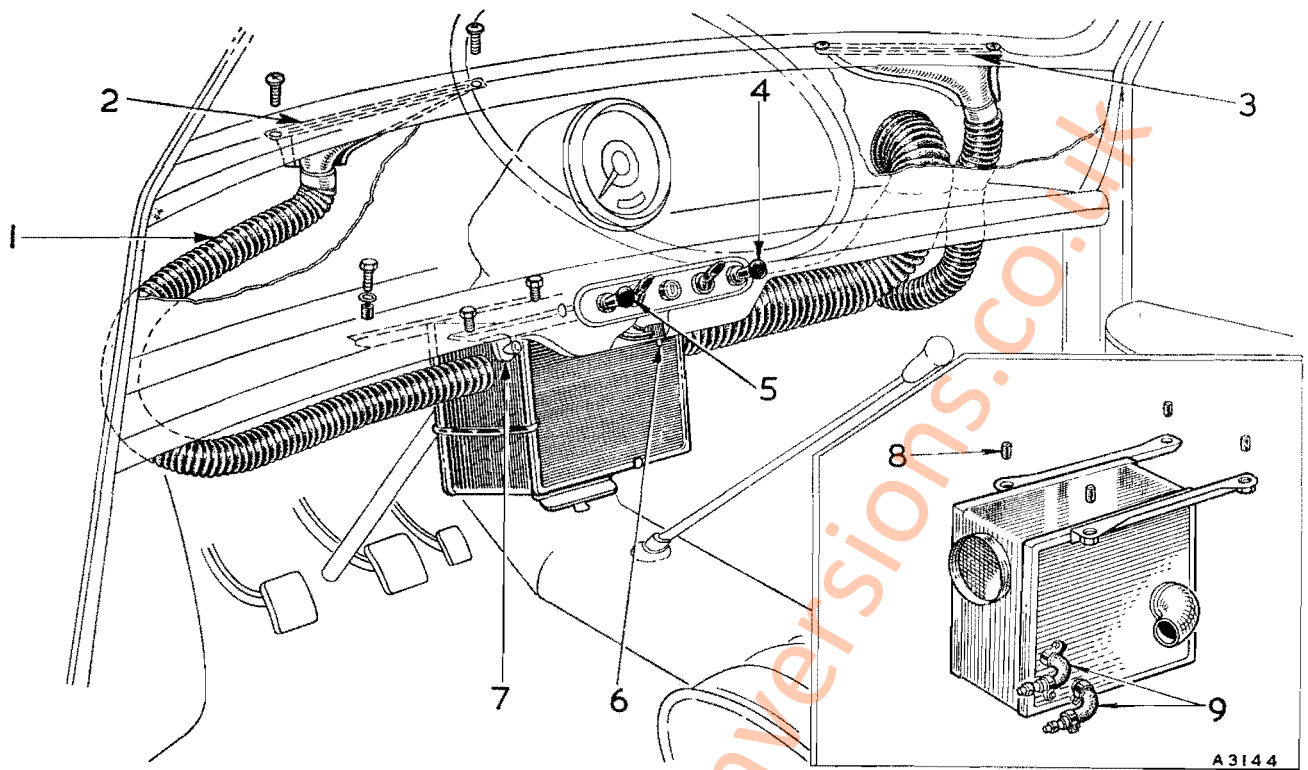

Fig. R.21
parcel shelf as shown in Fig. R.21 and mark off the fixing hole position on the shelf.
- (7) Push the air control fully in, pass the cable through the bulkhead, and secure the outer cable to the clamp on the air valve. Rotate the forked lever on the air valve away from the cable clamp into the open position. Pass the inner cable through the trunnion on the forked lever and tighten the trunnion screw. Operate the air control and ensure that the air control shuts off when the control is pulled out.
- (8) Assemble a snap connector, nipple, and sleeve to one end of the wire supplied and a snap connector nipple to the remaining motor lead. Plug the wire onto the motor lead and thread the wire through the bulkhead. Slide back the sleeve and solder the end of the wire to one terminal of the heater switch; slide the sleeve over the soldered connection.
- (9) Remove the Lucar connection from the green lead emerging from the loom below the fascia. Slide back the sleeve and solder the bare end to the remaining switch terminal; slide the sleeve over the soldered connection.
- (10) Cut a  $\frac{7}{16}$  in. (11.11 mm.) hole in the fascia rail in the position shown in Fig. R.21 and fit the switch to the rail.